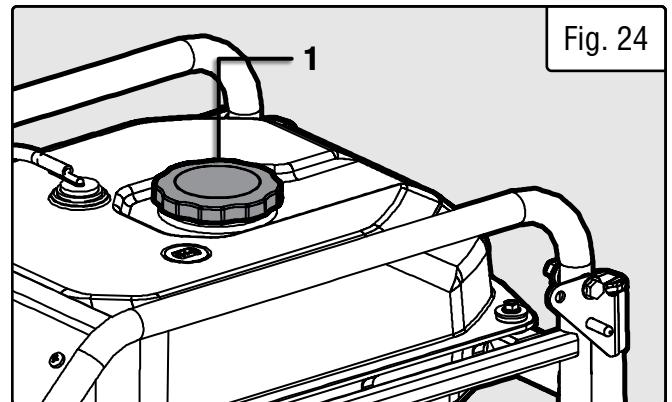
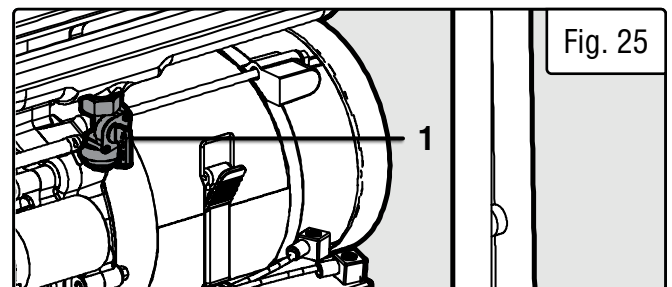

Fig. 24
Fig. 25
3. Remove the fuel cap (Fig. 24 - 1) and turn the fuel valve (Fig. 25 - 1) ON.